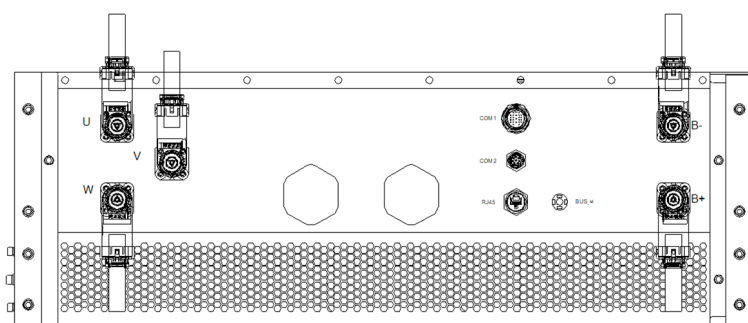
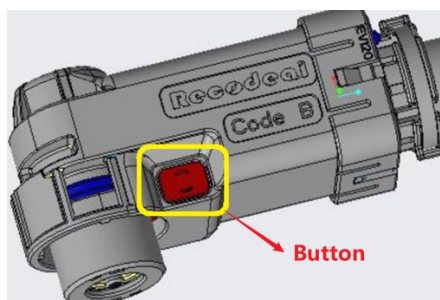

Figure 5 Installation & Removal of Quick Insert Terminals
Figure 6 Removing the Button Position
- 1.2 When the AC and DC quick-plug terminal is dismantled, first rotate the quick-in terminal to be disassembled to the angle shown in Figure 5 below, and then press the disassembly button of the quick-plug terminal to gently pull out the terminal, and the fast-plug terminal removal button is shown in Figure 6 below.